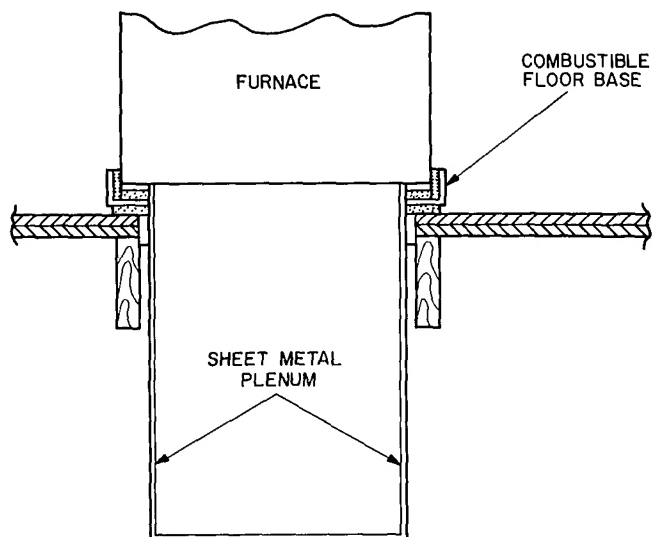

Fig. 6 — Furnace, Plenum, and Base Installed on a Combustible Floor
- When completed, combustible floor base, plenum, and furnace (or coil casing when used) should be installed as shown in Fig. 6.